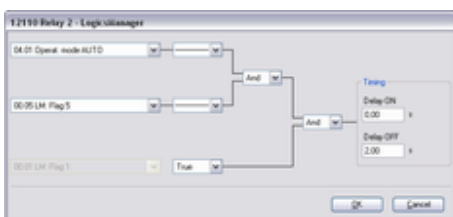

Fig. 210: LogicsManager function "Relay 2"
- ➔ Configure the LogicsManager function "Relay 2" as shown in (Fig. 210).